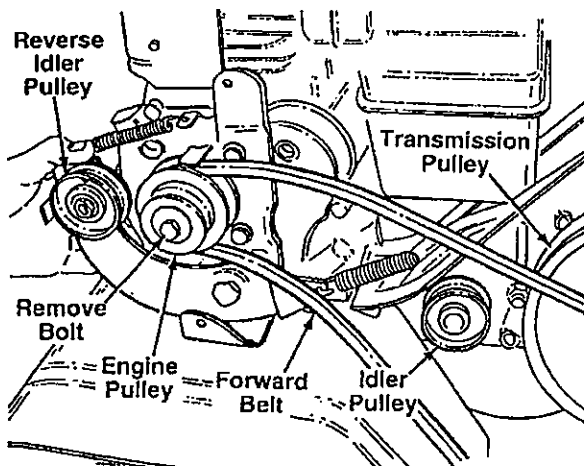

FIGURE 17
2. Lift belt off the idler pulley and transmission pulley. See figure 17.
3. Using a 9/16" wrench, remove bolt from engine pulley. See figure 17.
4. Push reverse idler pulley bracket forward, and remove engine pulley and belt. See figure 17.